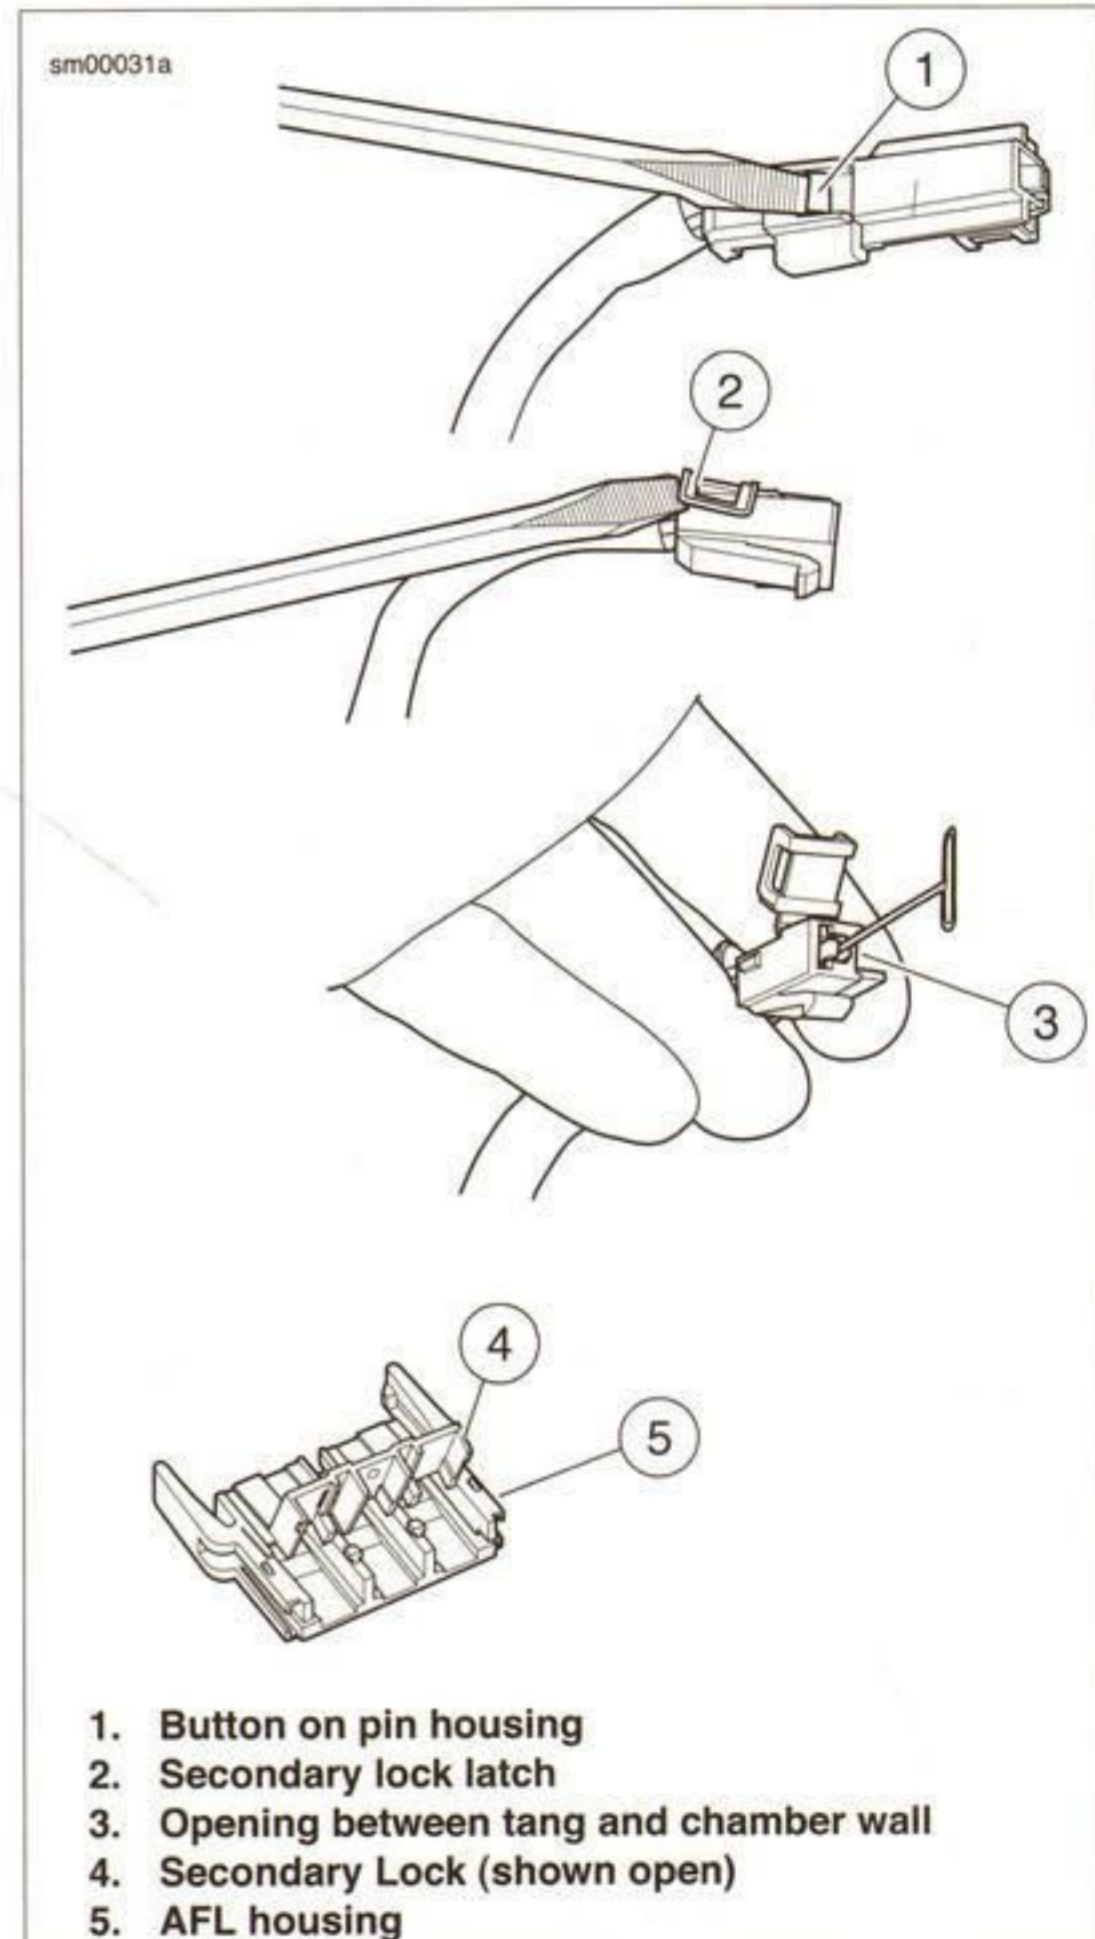

Figure A-23. 480 Metri-Pack Connector: Remove Socket Terminal
See Figure A-23. An AFL housing (5) is used on many ignition/light switches. The secondary lock (4) must be opened before removing the terminal from the housing.
See Figure A-23. Using small flat blade screwdriver, press button (1) on pin housing (red wire) side of the connector and pull apart the pin and socket housings.
1. See Figure A-23. Bend back the latch (2) slightly and free one side of secondary lock, then repeat to release the opposite side. Rotate the secondary lock outward on hinge to access terminal in chamber of connector housing.
2. On the mating end of the connector, note the tang in the square shaped opening centered next to the terminal. Gently insert the point of a stick pin or large safety pin into the opening (3) between the tang and the chamber wall until it stops.